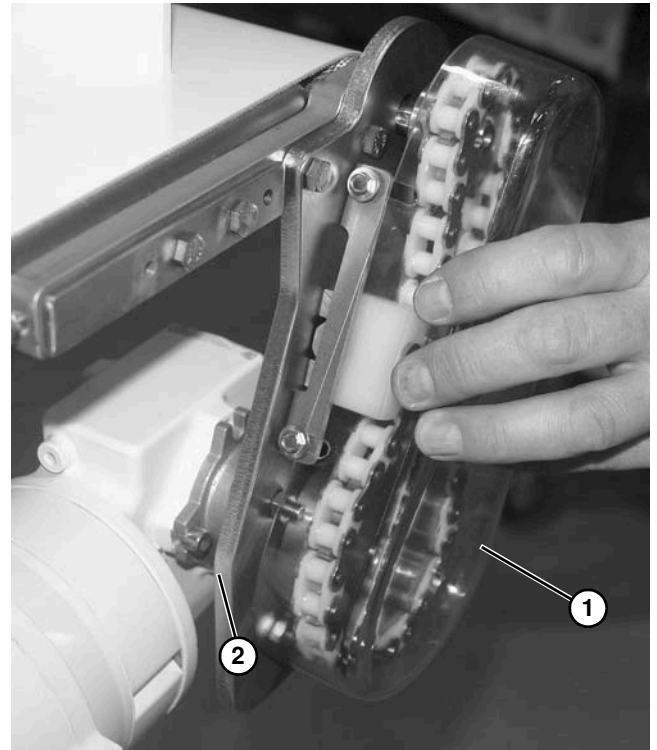

Figure 49
2. Remove cover (Figure 49, item 1).